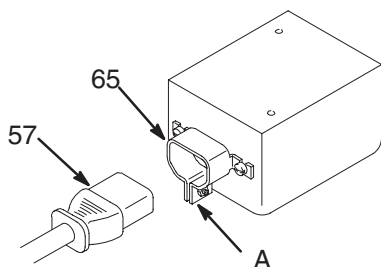

Fig. 2
1. **Plug the power cord (57)** into the inlet receptacle located below the motor. Tighten the screw (A) of the cord clamp (65) securely. See Fig 2.